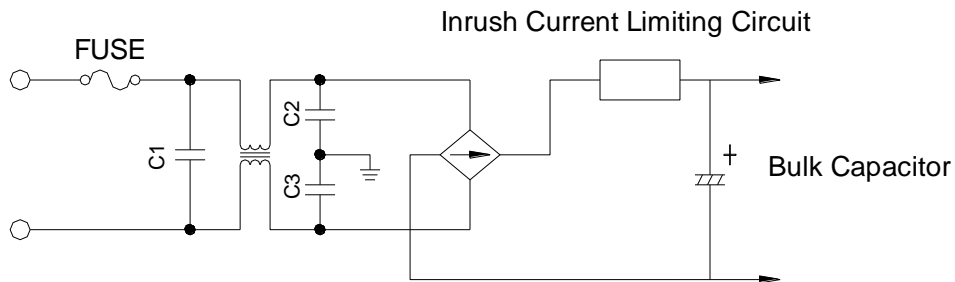

Figure 2.2: Circuit of input rectification and filtering
Leakage current is the current flowing from the protective earth (PE) conductor, such as metal enclosure, of equipments to frame ground (FG). Due to EMI requirements in S.P.S., there are Y capacitors (C2 and C3 in Figure 2.2) connected in between AC L/N and PE conductor. A low current will flow through the Y-caps to FG. In reality, leakage current should be regulated to comply with safety standards. In regulations of IEC60950-1 for IT products, leakage current should be less than 3.5mA for portable Class I equipment, 0.75mA for hand-held Class I equipment, and 0.25mA for Class II equipment.